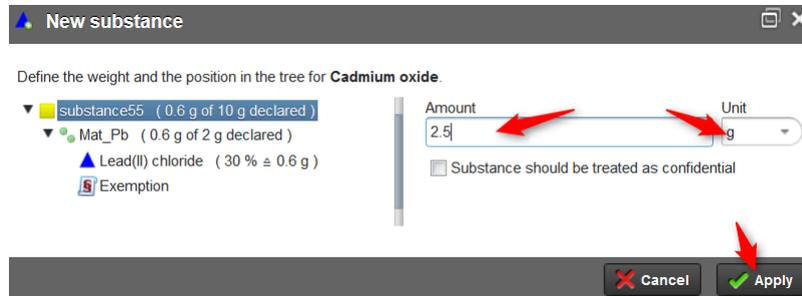
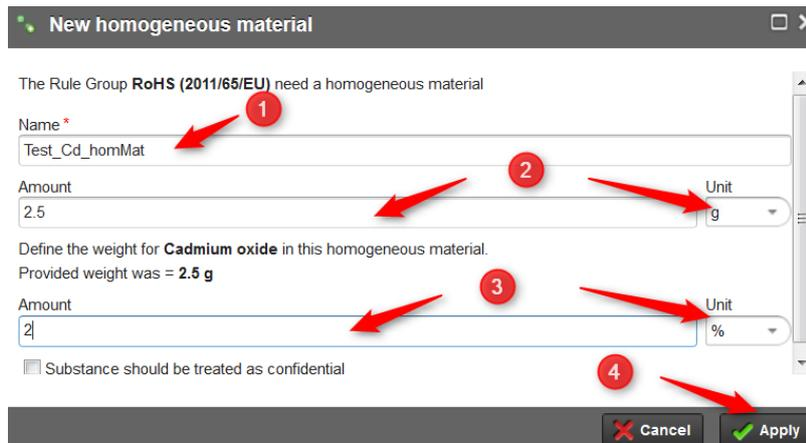
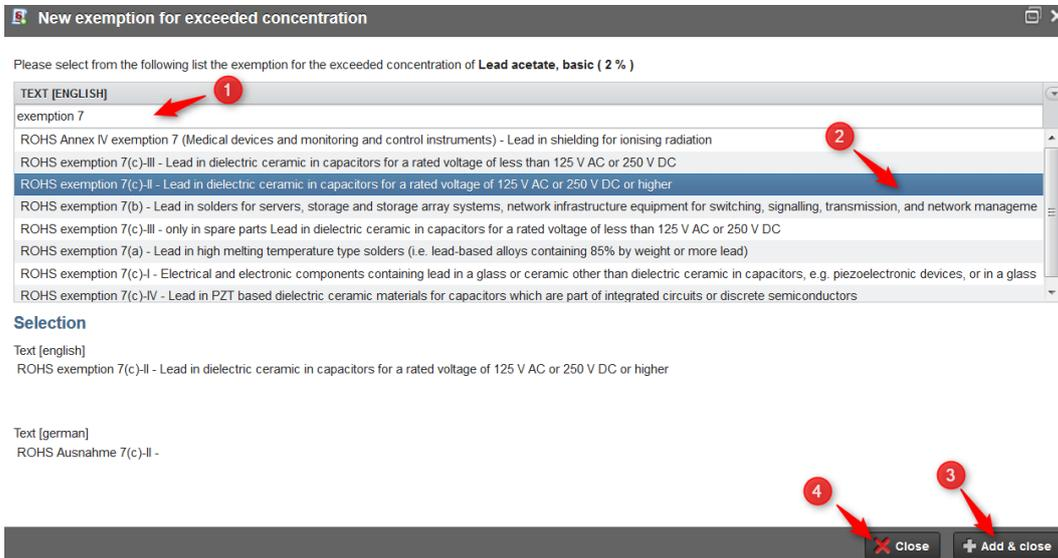

Figure 23: Amount and unit entry
Figure 24: Definition of “homogeneous material” for RoHS
Figure 25: Definition of exemptions for RoHS
After searching and choosing a RoHS-related substance¹ (Figure 22 point 1) and by clicking on the button “Add Substance” (Figure 22 point 2) the next window were amount and unit need to be defined (Figure 23).
By clicking on “Apply” (Figure 23) a new window “New homogeneous material” opens (see Figure 24). Respective to the RoHS directive the restricted substances/materials have to be declared in relation to the so-called “homogeneous material²”. This is a mandatory step. Following entries are here to execute:
- Name of the homogeneous material - (see Figure 24 point 1)
- Amount of the homogeneous material and Unit [mg, g or kg] - (see Figure 24 point 2)
- Amount of the declared substance/material and Unit [% or %-%] (percentage of the declared substance occurring in relation to the homogeneous material) - (see Figure 24 point 3)
This step will be completed by clicking “Apply” (see Figure 24 point 4) and the next window opens. Here you can declare an adequate RoHS-exemption (if applicable). To find the adequate exemption you can scroll down or use the search entry field and filter/reduce the list (see Figure 25 point 1). After choosing the adequate exemption (Figure 25 point 2) you can add it into your declaration by clicking “+ Add & close”.